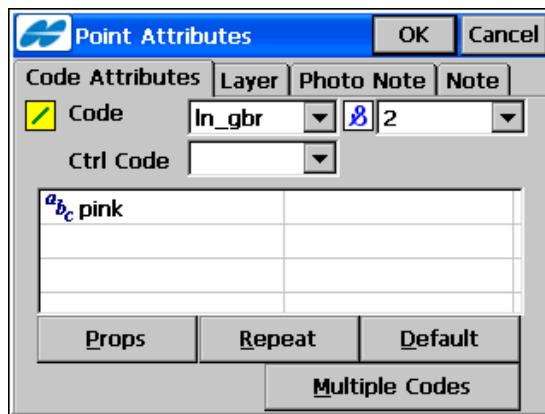

Figure 6-7. Point Attributes
- – the *Attributes List* icon, opens the *Point Attributes* screen to set the code and attributes available for the code chosen (Figure 6-7 on page 6-7).
On the **Point Attributes** screen (Figure 6-7), you can set a code, control code, string and attributes’ values for the point on the *Code Attributes* tab.